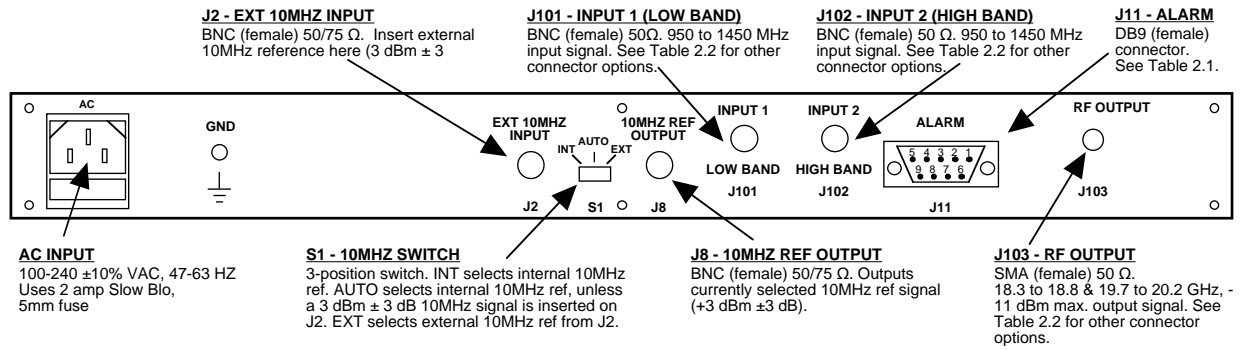

FIGURE 2.1 2115-21-202 Rear Panel I/O's
Figure 2.1 shows the input and output connectors on the rear panel.
1. Connect a -11 dBm maximum composite signal (950 - 1450 MHz) to INPUT 1, J101 (Figure 2.1).
2. Connect a -11 dBm maximum composite signal (950 - 1450 MHz) to INPUT 2, J102 (Figure 2.1).
6. Select either INT (for internal 10MHz ref), AUTO (for internal 10MHz ref UNLESS a external 10MHz, 3 dBm signal is connected to J2), or EXT (for external 10MHz, 3 dBm ref that is inserted at J2) on rear panel switch, S1 (Figure 2.1).
8. Check that a 10MHz, 3 dBm \pm 3 dB signal is present at the 10MHz REF OUTPUT, J8 (Figure 2.1).